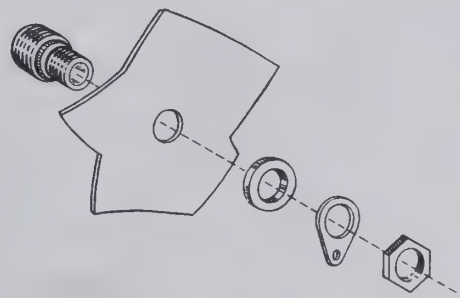

Figure 8
- (✓) Mount the three shielded connectors in the holes marked AF IN, AF OUT, and RF OUT. See Figure 8 for method of mounting.